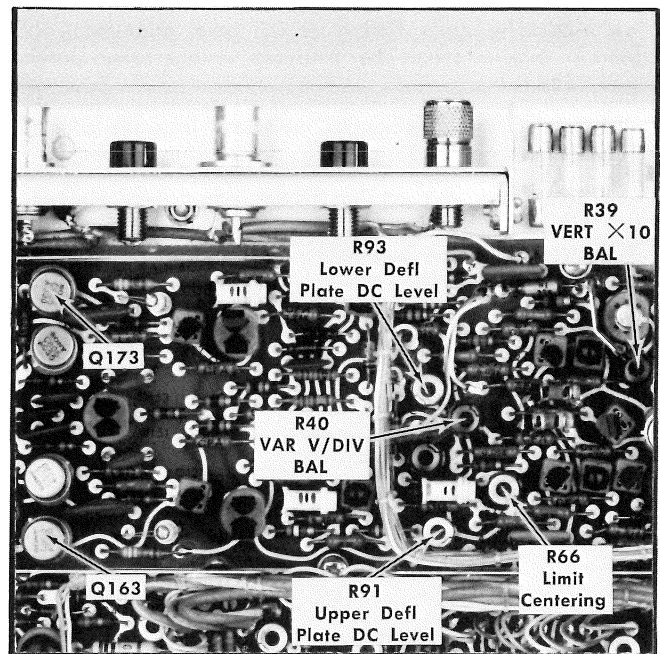

Fig. 6-5. Location of vertical adjustments (Main board).
c. ADJUST—VAR V/DIV BAL adjustment, R40 (see Fig. 6-5), for no trace shift as the VARIABLE VOLTS/DIV control is rotated. If necessary, use the vertical POSITION control to keep the trace on screen during this adjustment.
e. ADJUST—VERT ×10 BAL adjustment, R39 (see Fig. 6-5), to return the trace to the center horizontal line. Repeat parts b through e for minimum trace shift as the ×10 VERT GAIN switch is pulled out.
b. Connect the precision DC voltmeter from the collector of Q163 (case of Q163; see Fig. 6-5) to chassis ground.
e. ADJUST—Upper Defl Plate DC Level adjustment, R91 (see Fig. 6-5), to center the measured voltage range around +50 volts.
f. Connect the precision DC voltmeter from the collector of Q173 (case of Q173; see Fig. 6-5) to chassis ground.
i. ADJUST—Lower Defl Plate DC Level adjustment, R93 (see Fig. 6-5) to center the measured voltage range around +50 volts.
k. Connect the precision DC voltmeter from the collector of Q163 (case of Q163; see Fig. 6-5) to chassis ground.
l. Preadjust the Limit Centering adjustment, R66 (see Fig. 6-5), for a meter reading of +50 volts (perform this adjustment only if proceeding to next step).